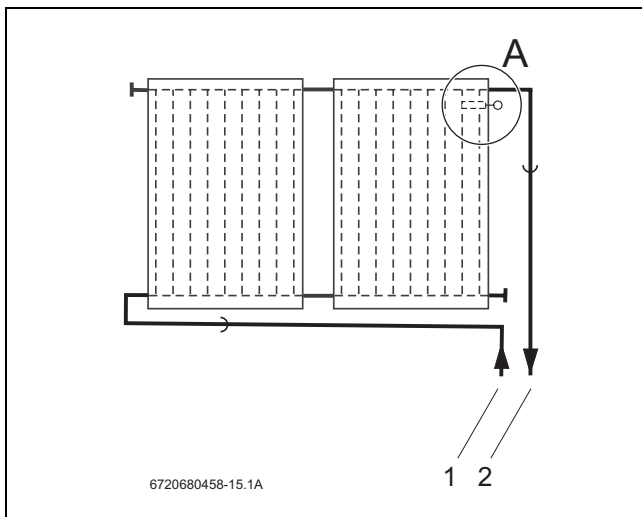

Fig. 45 Mounting location for the collector probe (schematic view)
Pay attention to the mounting location of single or double row collector systems (Fig. 45, [1]).
The collector probe must be mounted with flow pipework connected (Fig. 45, [2]).
- Mounting location (Fig. 45, [A]) for the side collector systems with flow pipework on the right.